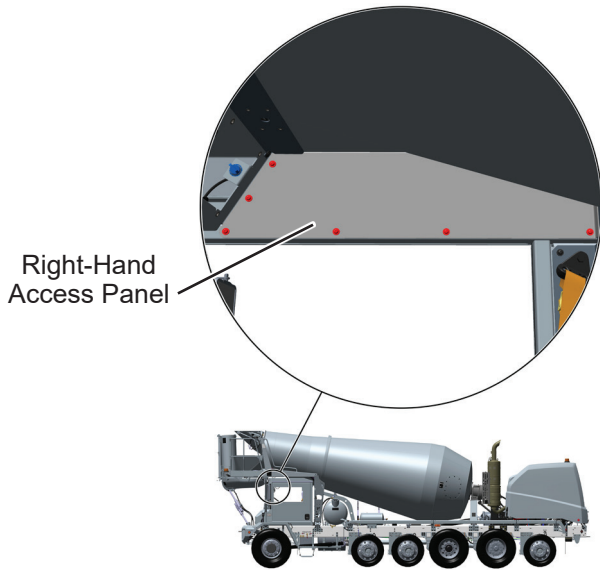

Figure 23
52. Reinstall right-hand access panel with seven screws and washers removed in Step 13. See Figure 23. Final tighten screws to 75 in lbs.